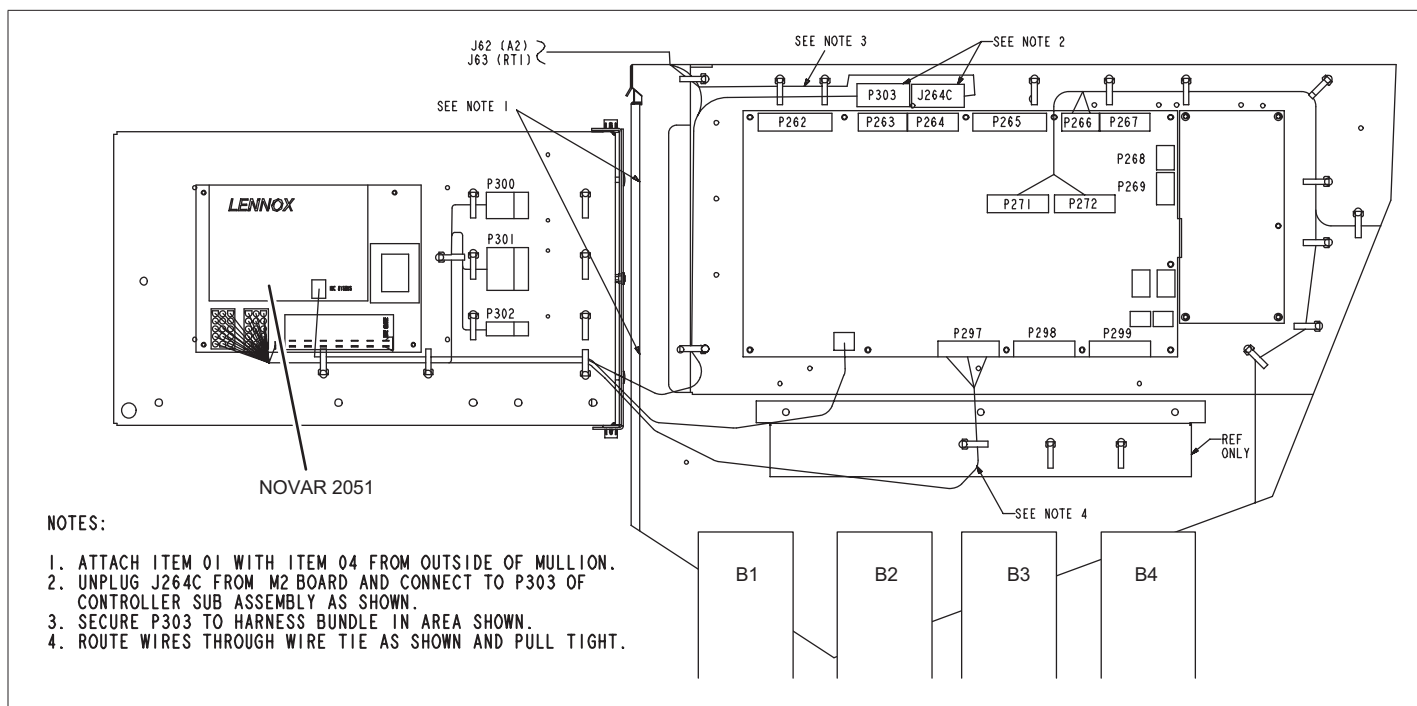
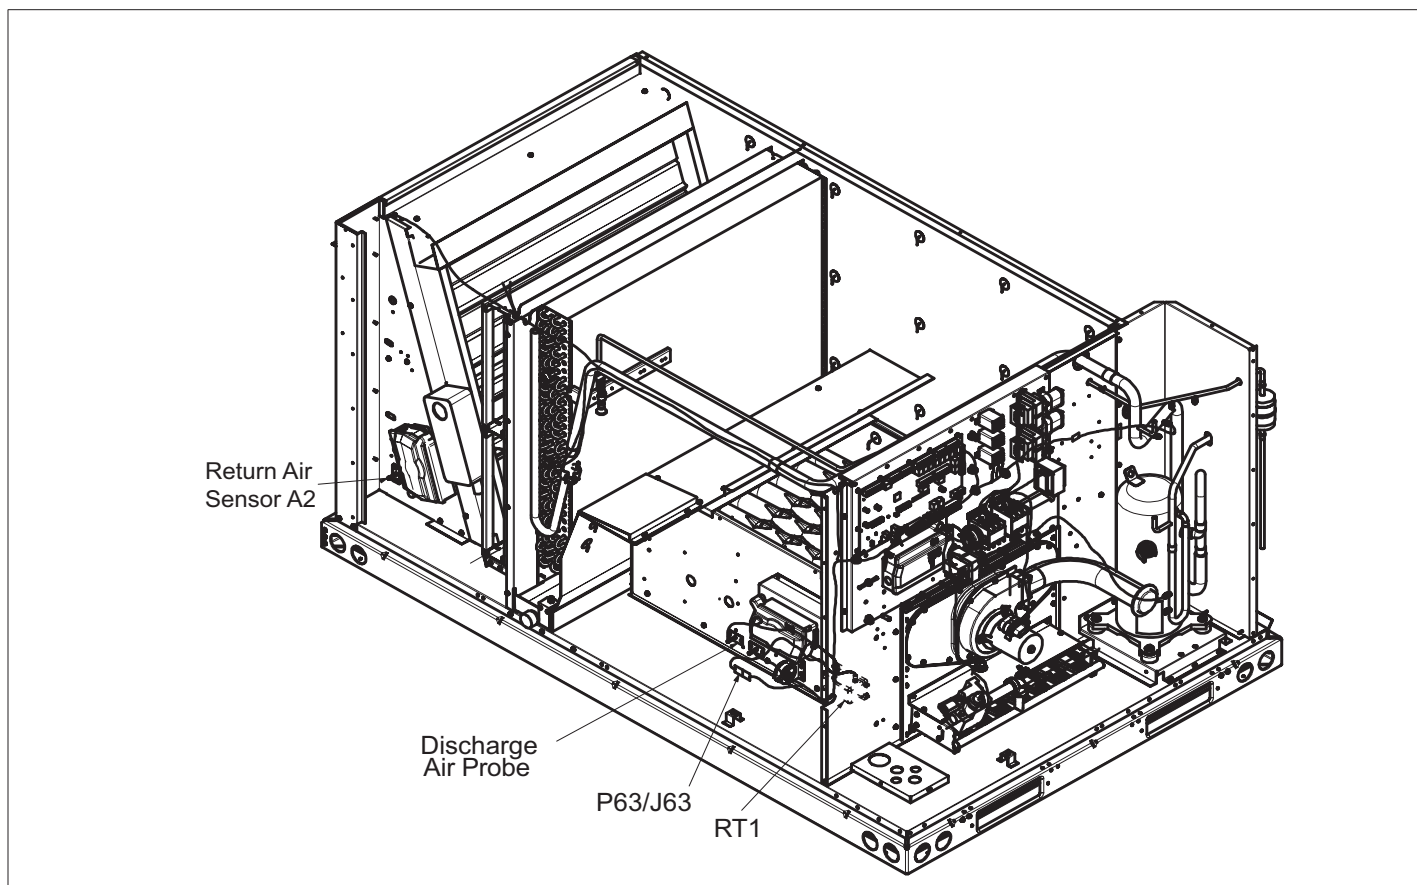

Figure 6. 240 Units – Accessing DDC (Top View)
Figure 7. Routing J63 RT1 Harness (036,060 Units)
1. If the 3051 DDC is replacing a 2024 DDC, the old wiring harness must be removed from the unit and replaced with the 106177-01 harness provided. Refer to wiring diagram and figures 7 and 8 below to connect harness to DDC and discharge air sensor. If the 3051 DDC is a new install, route harnesses coming from sub-assembly as shown in "Figure 6. 240 Units – Accessing DDC (Top View)" on page 3 for the following steps 1 through 3. Disconnect J264C from M2 board and connect to P303 of controller sub-assembly.
- 036/060 units: see "Figure 7. Routing J63 RT1 Harness (036,060 Units)" on page 3.